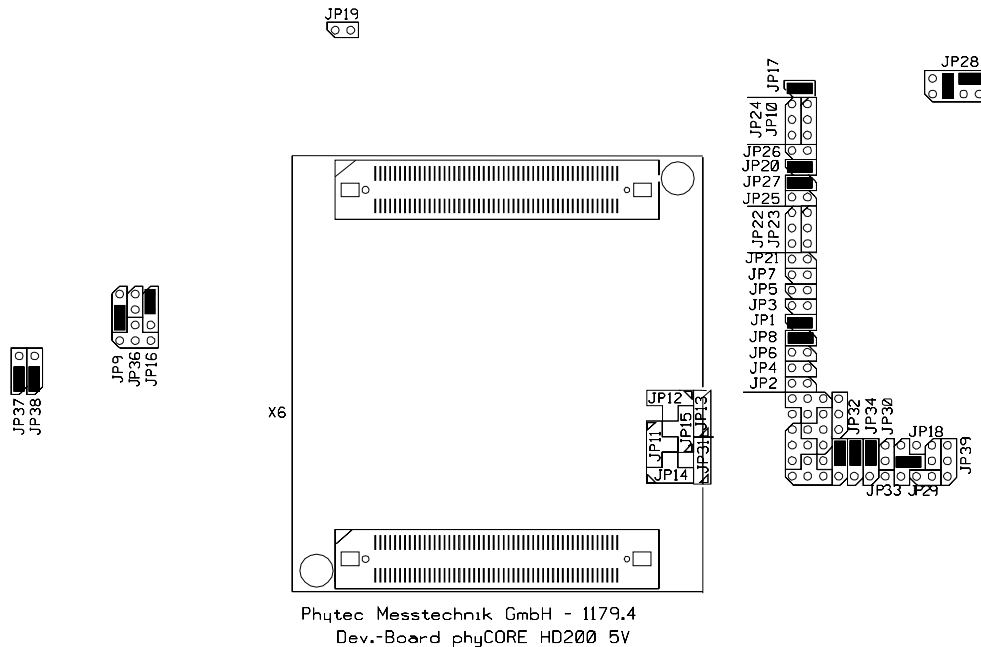

Figure 4: Default Setting for the phyCORE Development Board HD200 2.5V
- Configure the jumpers on the Development Board as indicated in *Figure 4*. This correctly routes the RS-232 signals to the DB-9 socket (P1A = bottom) and connects the Development Board's peripheral devices to the phyCORE module.